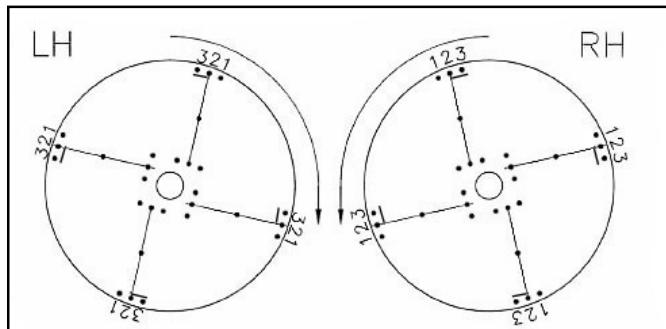

Figure 4 - Fin locations for 24" bottom
- Figure 4 - 24" wide bottom: all fins in position 2.